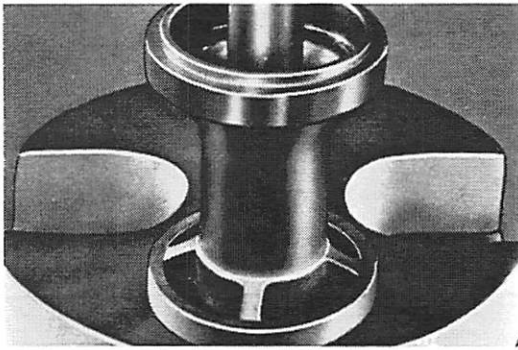

Figure 3. Pressing Roller Bearing from Carrier Ass'y
10. Press roller bearing and seal from carrier assembly on arbor press with Bearing Mandrel (91-24288A1) and Bearing Adaptor (91-30406). (Figure 3)